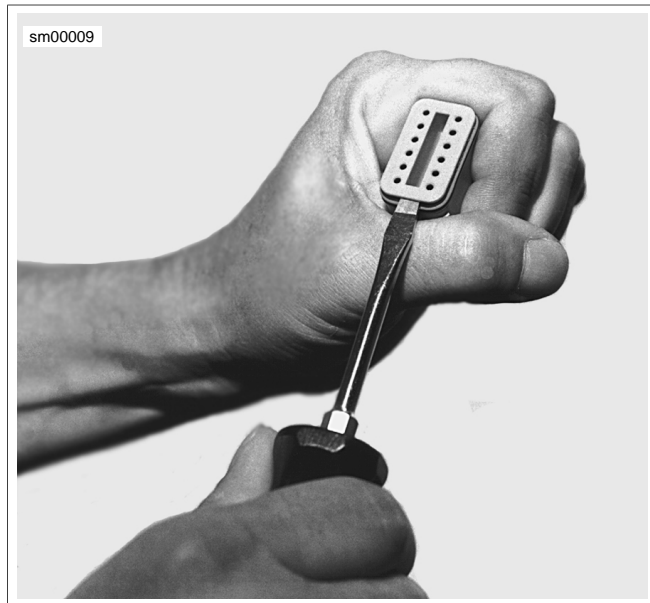

Figure A-12. Deutsch Connector: Remove Secondary Locking Wedge
1. See Figure A-12. Insert a small screwdriver between the socket housing and locking wedge in-line with the groove (in-line with the pin holes if the groove is absent). Turn the screwdriver 90 degrees to pop the wedge up and remove the secondary locking wedge.